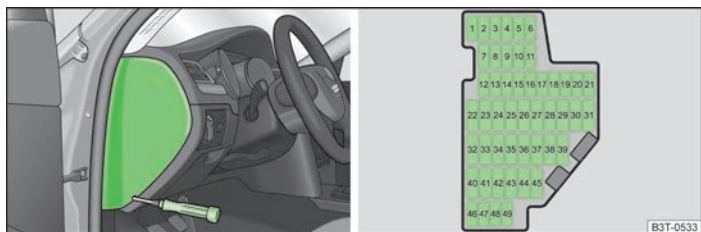

Fig. 183 Fuse box cover/Schematic diagram of the fuse box
- Remove the cover for the fuse box using a screwdriver » Fig. 183.